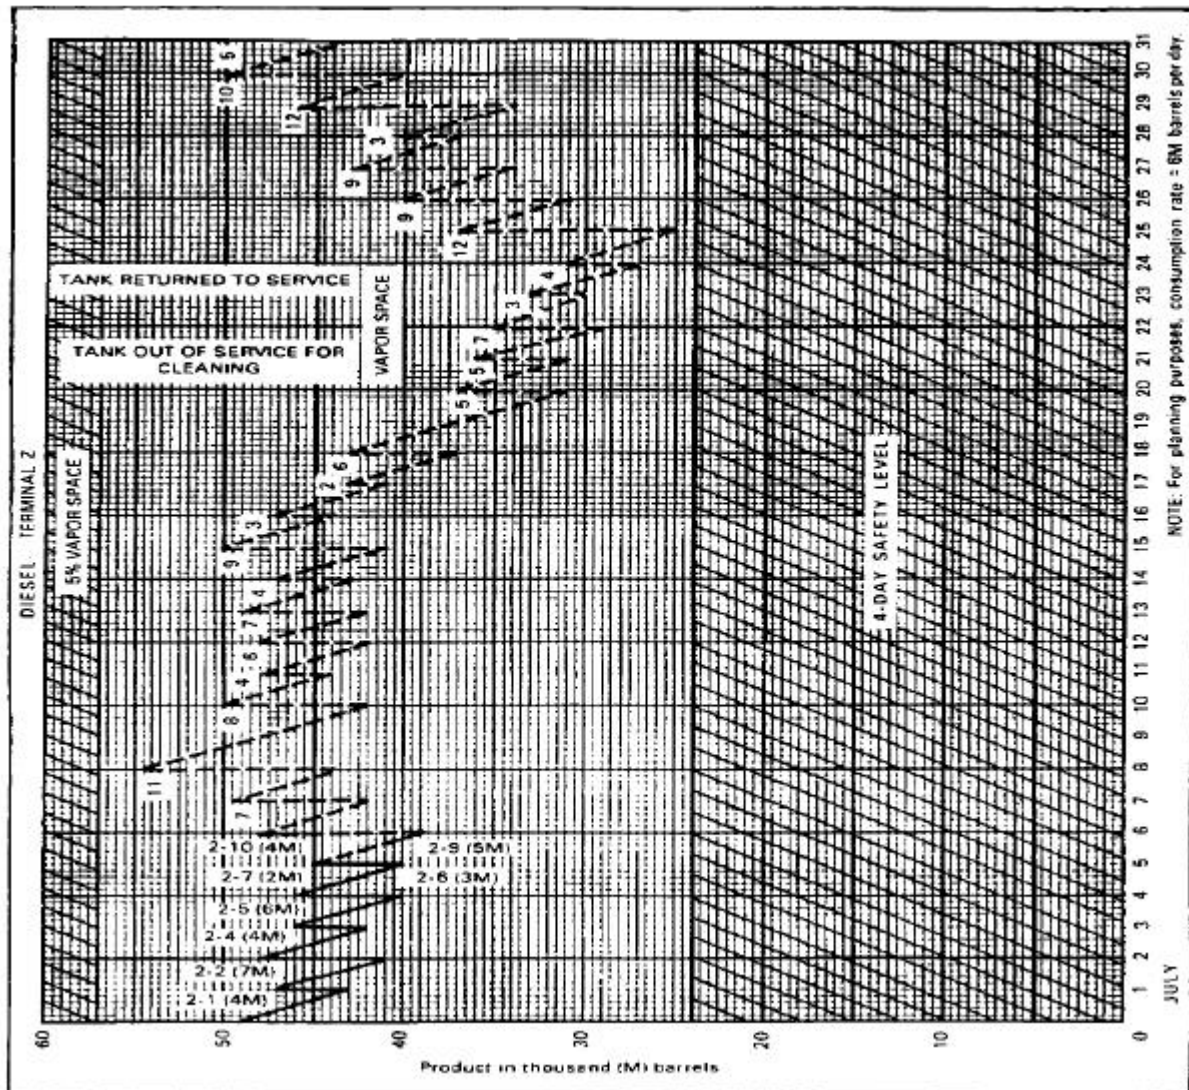

Figure 4-2. Consumption graph
- **Consumption graph.** A consumption graph (Figure 4-2, page 4-28) is set up to show the total barrels of a given product for each terminal or storage point. Each terminal should have some sort of consumption chart for consumers who use large quantities of any one product. Consumption graphs will allow petroleum dispatch sergeants to visualize present and future stocks and storage positions. The graphs will also give data for determining trends in consumption. When petroleum dispatch sergeants prepare the graphs for each type of product, they use FM 10-67-1 as a guide. The following should be shown on the consumption graph: